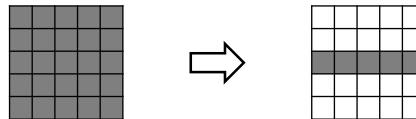

Figure 15 Kernel Load Reduction
- Kernel size settings are separated for the Source In and Source Out types. Both SrcIn and SrcOut types support special addressing schemes, as shown in Figure 15, to enable processing along the time axis rather than the spatial axis (Ver.AB). Memory is accessed by cumulatively adding the offset ($2 \times \text{FilterCntl.Stride}$) from the kernel center coordinate (O).